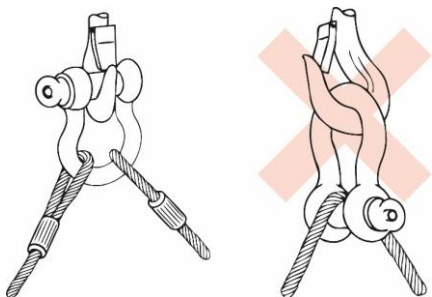

Figure 4
- Avoid uses where the load is unstable (see figure 4).